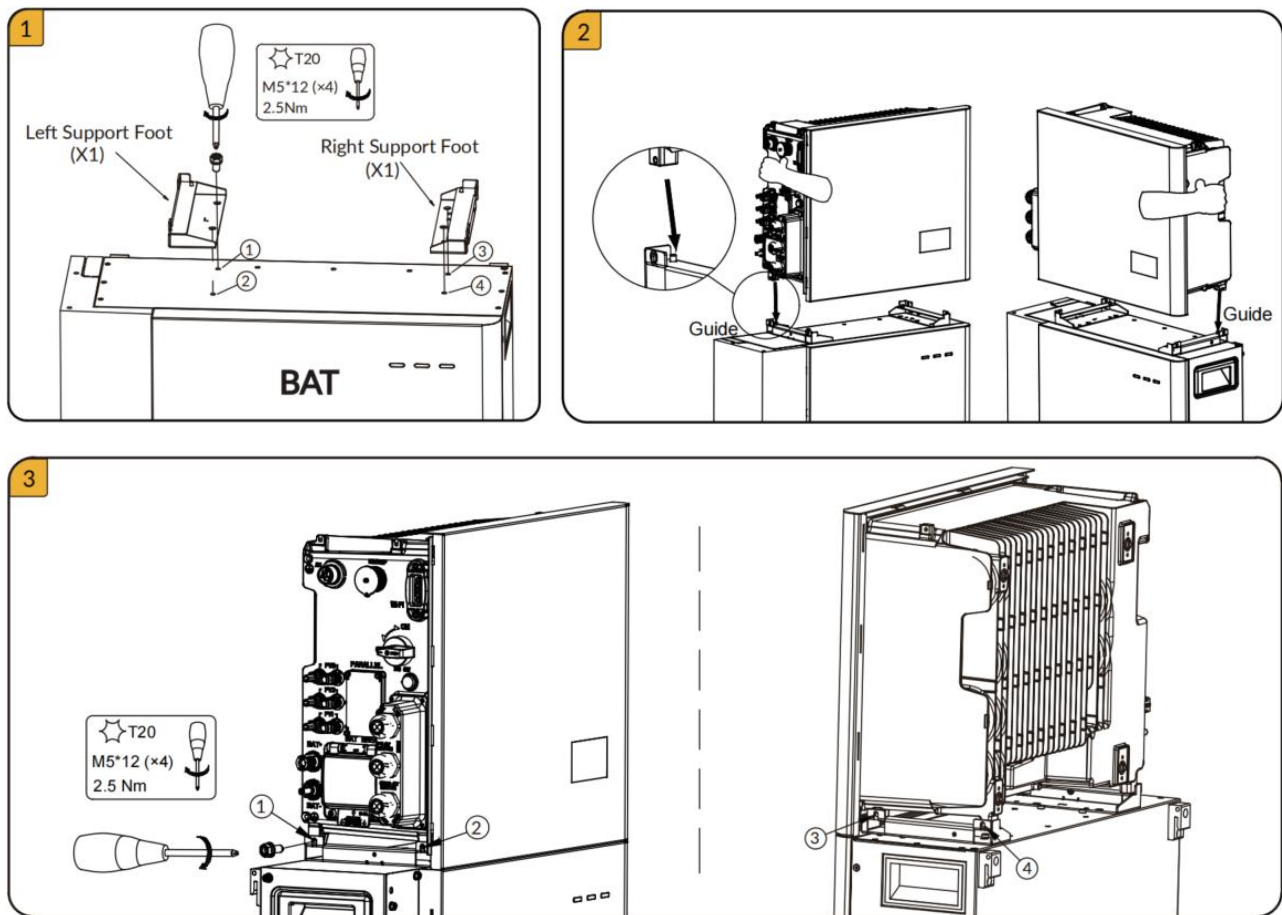

Figure 5-6 Inverter installation diagram
2. Mount the left support foot and right support foot onto the top of the upper battery. Refer to 1 in Figure 5-6.
3. Place the inverter onto the two support feet. Ensure the lower right and left holes on the bottom of the inverter align to and insert into the respective guides in the support feet. Refer to 2 in Figure 5-6.
4. Attach the inverter to the side support feet. The inverter mounting holes should align to the horizontal holes of the side support feet. Note that the inverter sits inside (between) the two feet and is secured with two screws on the left and right sides. Refer to 3 in Figure 5-6.